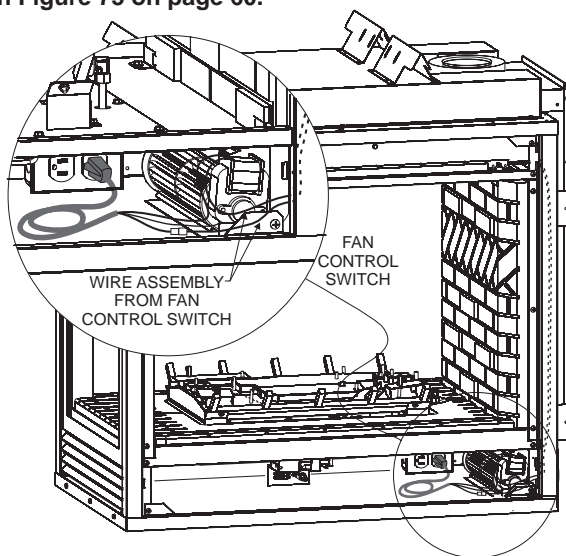
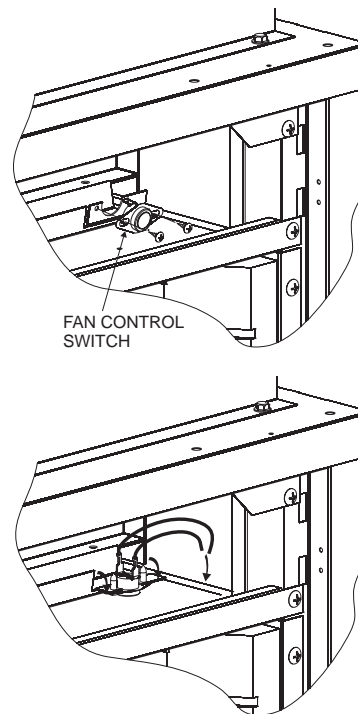

Figure 71
Figure 72
To install the blower kit or access the junction box, remove lower louver as illustrated by **Figure 71**.
4. Insert blower assembly into interior, bottom of fireplace. Note: On peninsula models, the blower must be installed at the end which has the brick panel installed. Position blower assembly so that you align the notch on back of blower assembly with the center screw on side/end panel, then push the blower assembly against fireplace outer panel. The blower wheel must be centered with the side/end wall of the fireplace. The magnets on the back and bottom of blower assembly will sufficiently hold blower assembly in place. **See Figure 71.**
5. Once the blower assembly is in position, remove the upper louver as shown and locate the switch tab (end of support channel) on top of the firebox. Install the fan control switch by first removing the two pre-installed screws in the tab, then secure the fan control switch to the tab. **See Figure 72.** Once the fan control has been secured, bend the tab forward so that the face of the fan control is pushed down so it contacts the firebox top.
6. Next, find the fan control wire assembly. Feed the wires over the top of the firebox. The fan control wires will slide down between the firebox and outer wrap near the blower assembly. **See Figure 71. Attach the two 3/16" wire terminals to the fan control switch as shown in Figure 72. Attach the wire terminals at the blower as shown by letters "A" and "B" in Figure 75 on page 60.**